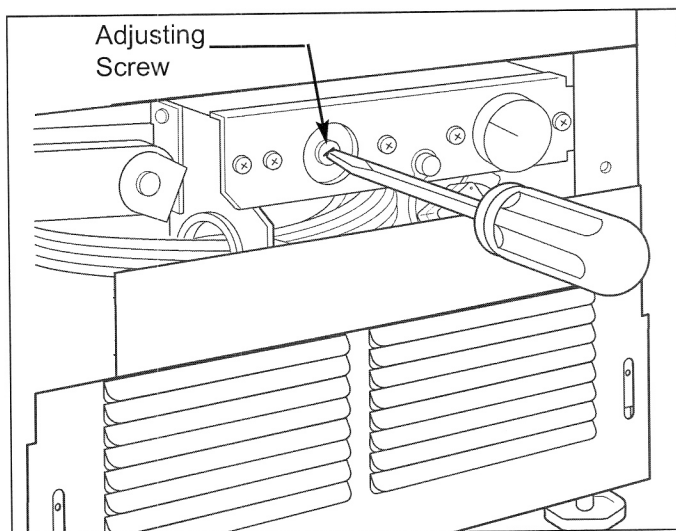

Figure 4-13. Turn Cube Size Adjustment Screw
2. Locate the cube size adjustment screw. (See Figure 4-13)